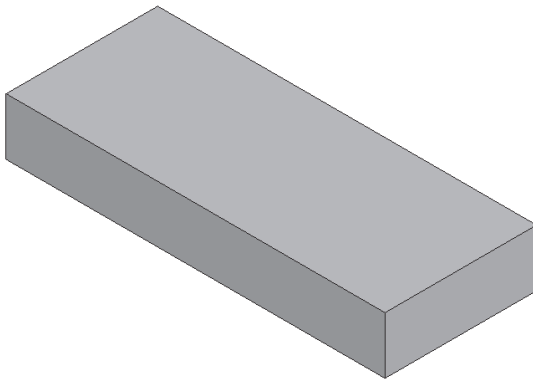

Figure 8-67 Base feature of the model
- Start a new part file and create the base feature on the top plane, refer to Figure 8-67.
1. Start a new part file and then create the base feature of the model, which is a box of 100X40X14 size. The base feature of the model is shown in Figure 8-67.